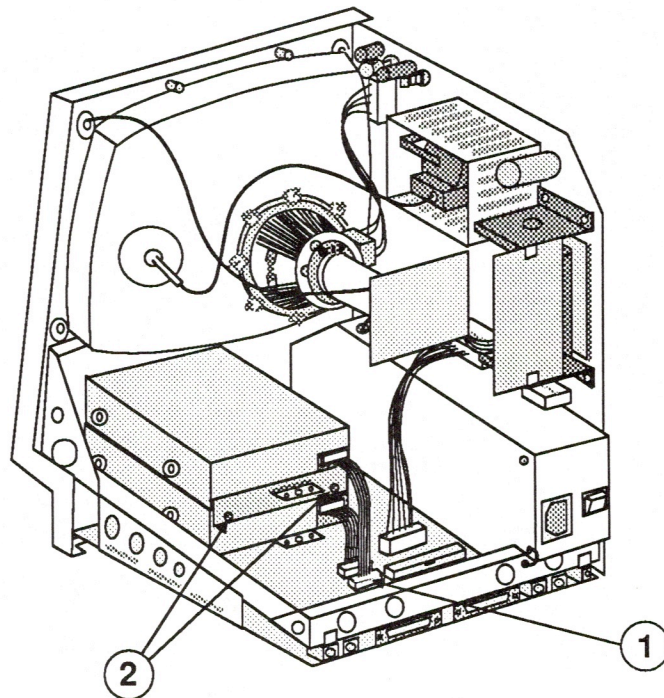

FIGURE 24
3. Disconnect the upper 800K disk drive cable from connector J7 on the main logic board (Figure 24, #1).
4. Remove the two screws (Figure 24, #2) from the metal bracket that holds the two drive housings together. Lift off the metal bracket.